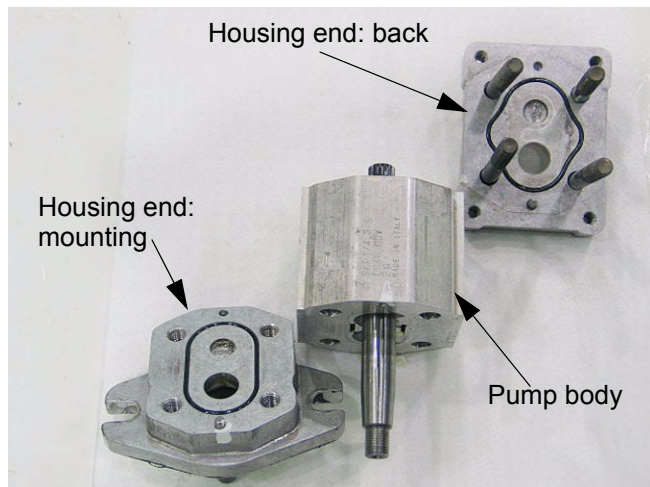

Figure 10.4
- 10.4. The second set of socket head cap screws holds the two housing ends to the body of the pump. See Figure 10.4.